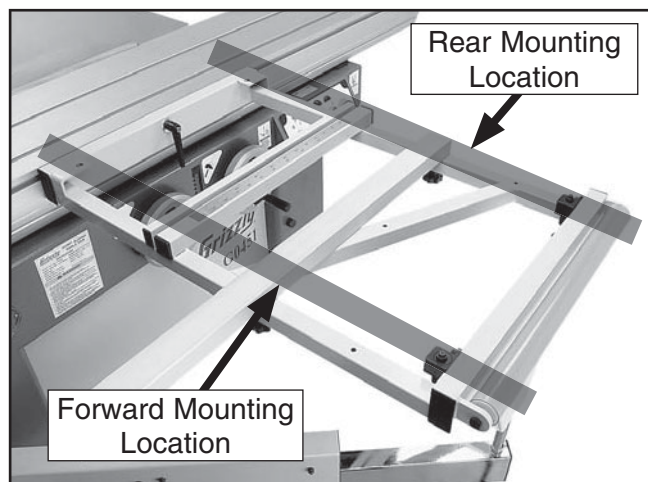

Figure 83. Crosscut fence mounting points.
1. Install the crosscut fence in the forward mounting location shown in **Figure 83** and lock it in place.
1. Install the crosscut fence in the rear mounting points shown in **Figure 83** and lock it in place.